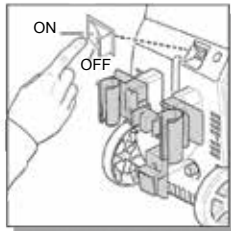

Fig. 15
Make sure the “ON/OFF” switch is in the “OFF” position. The power switch has international symbols for ‘on’ and ‘off’: On (–) Off (O). (Fig. 15)